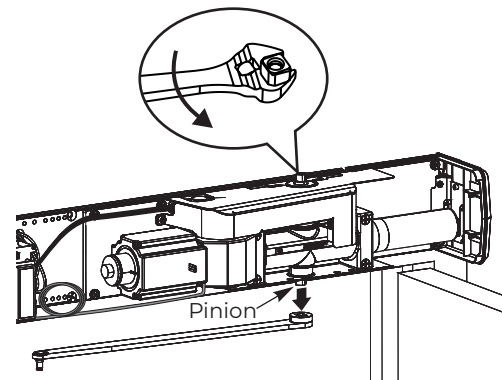

Fig. 5
5. Using an adjustable wrench, rotate top pinion 45 degrees toward door hinge and hold. (Fig. 5)